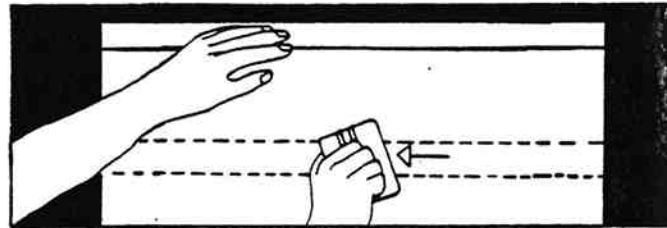

Figure 3-10. Burnishing Vinyl.
7. Lift the smaller (1/3) section of the vinyl and remove the liner or backing as you "squeegee" with firm, overlapping strokes. Repeat with larger (2/3) section. Go over all edges to ensure that they are firmly adhered. See figure 3-10.